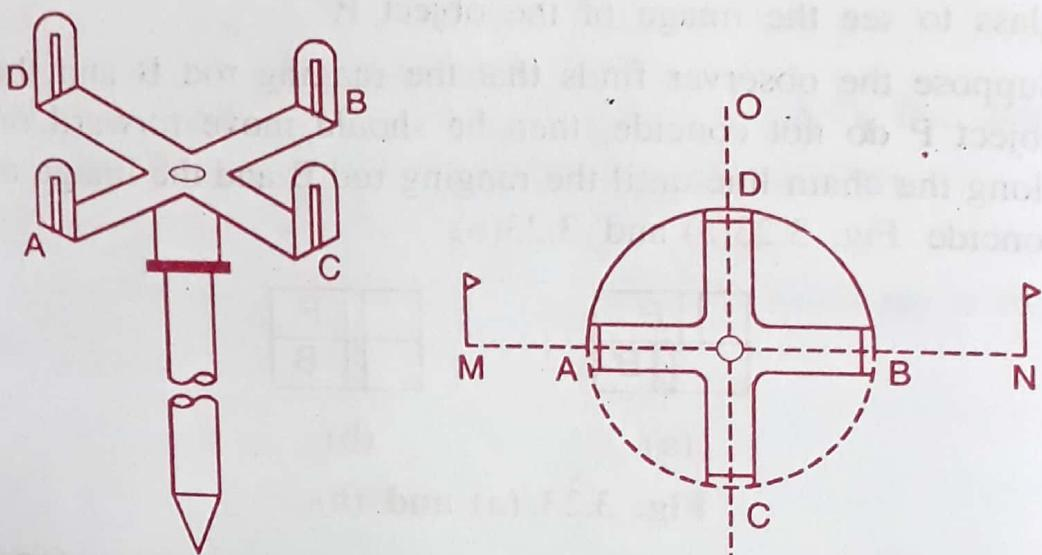

Fig. 3.25 Open cross staff
**(3) Open Cross Staff :** This instrument is the simplest form among all and consists of four metal arms with vertical slits for sighting through at right angles to each other, as shown in the Fig. 3.25.